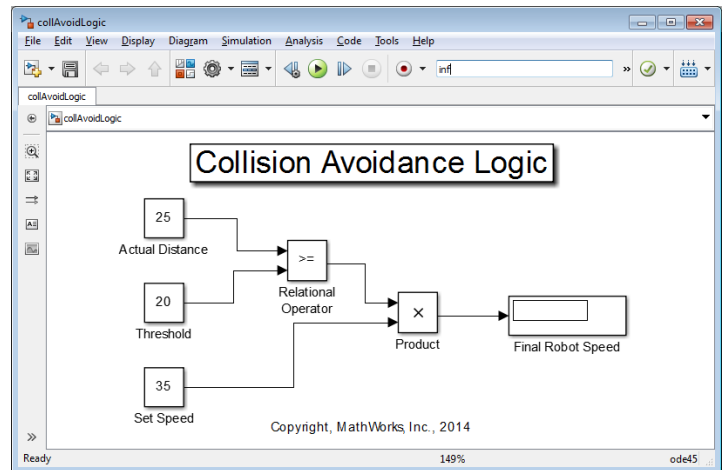

Figure 15: Collision avoidance logic
2. Save the modified model as collAvoidDeploy.slx. It should look like the model in the figure 15 below.